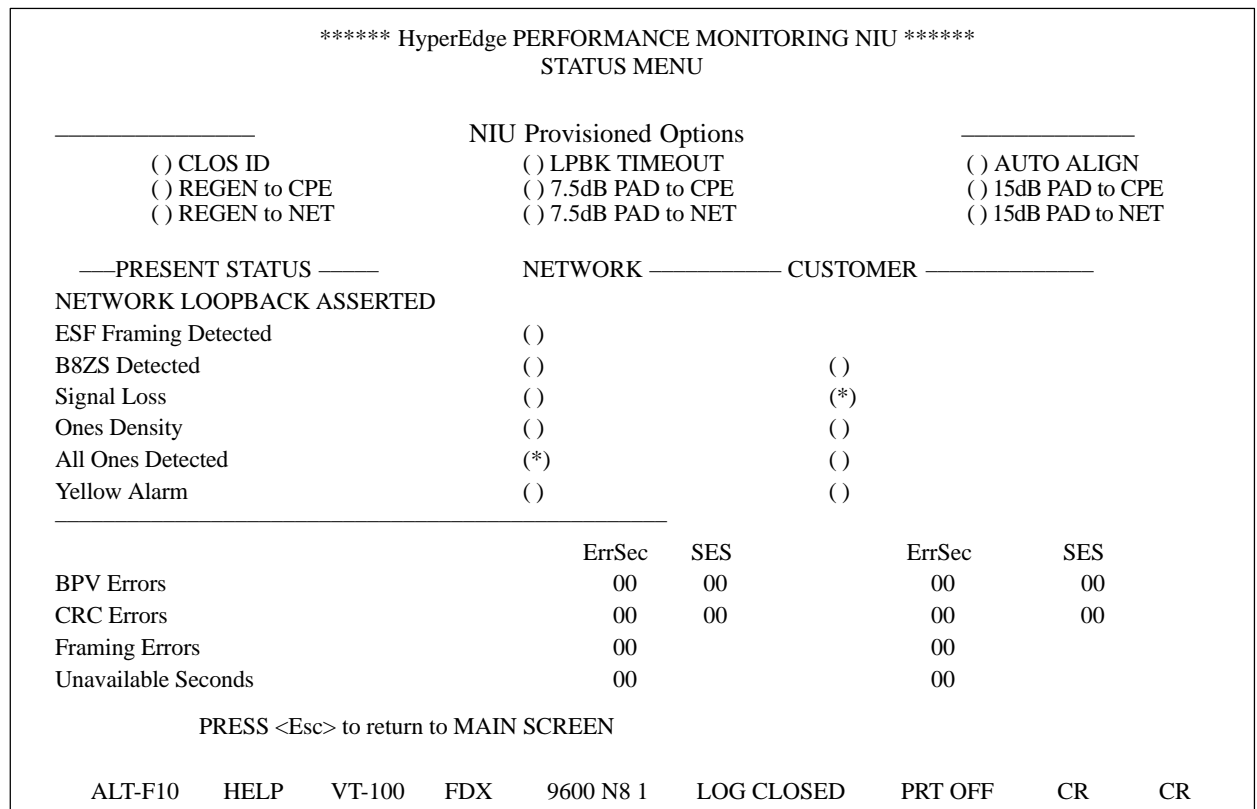

Figure 5. Typical Current Performance Status Screen
10.04 From the Main Menu, the test person can access the various other Performance screens which are shown in Figures 5 through 11.